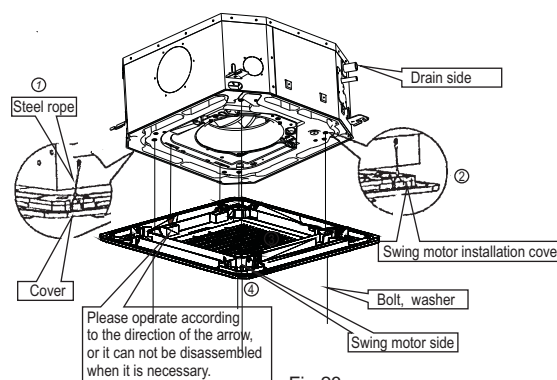

Fig.23
(2) Install the panel
- Align the swing motor on the panel to the water receiver of the body properly. (Refer to Fig.23)
- Hang the four fixed rope of the main body to the installation cover and the other three covers of the swing motor: (Refer to Fig.23)
- Install the panel on the main body with bolt (M5×16) and washer. (Refer to Fig.23)